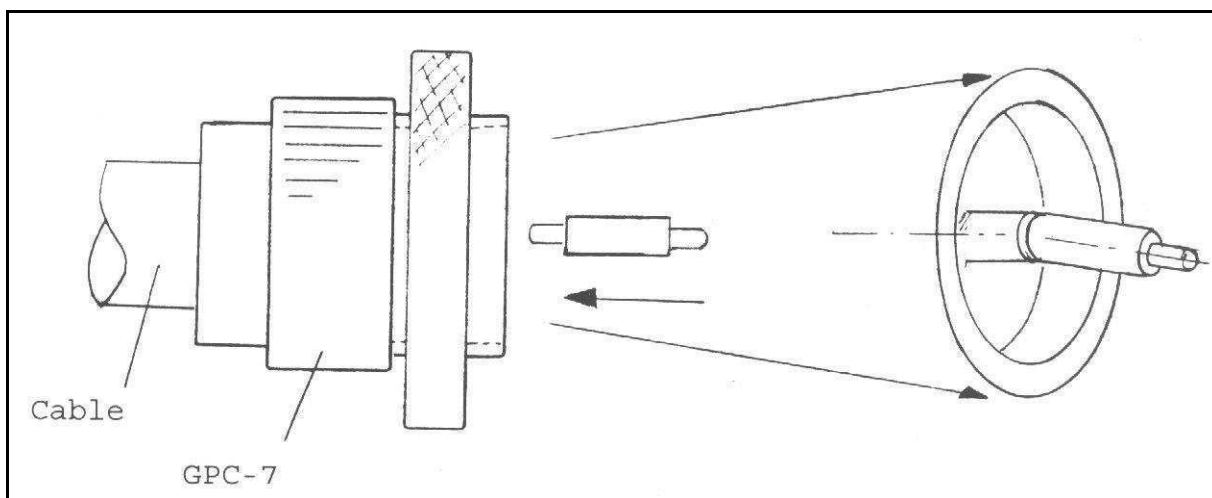

Figure 2: Assembly of External Conductor and Centre Pin
2. Mount the external conductor on the left GPC 7 connector (Figure 2).
3. Insert the centre pin in the left GPC-7 connector central conductor (Figure 2). The pin will hang slightly downwards.